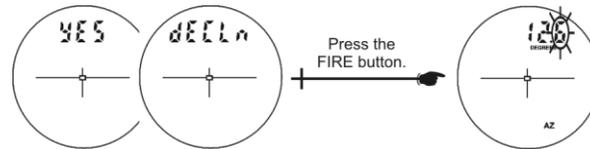

Figure 3. The TruPulse viewfinder, showing a user-entered declination value.
5. **no** and **dECLn** will blink. Press ▼ until **YES** and **dECLn** blink, then press “Power/Fire” again. The current declination is shown in the viewfinder (Figure 3).